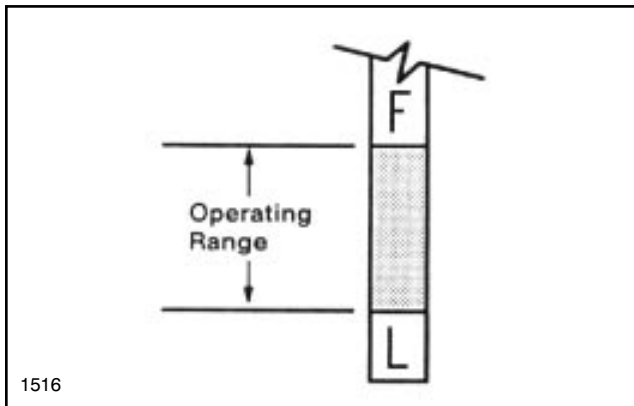

FIG. 10
2. Add oil if necessary to bring the level up to, but not over the "F" mark on the dipstick. See FIG. 10.